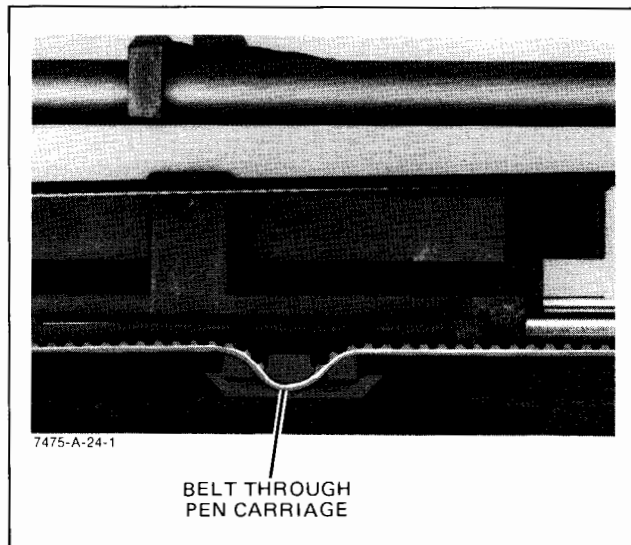

Figure 6-15. Pen Carriage
- e. To remove the belt, slide it from the pen carriage. See Figure 6-15.
- c. Slide the belt into the pen carriage. See Figure 6-15.
- e. Slide the belt from the pen carriage and move the pen carriage to the left. See Figure 6-15.